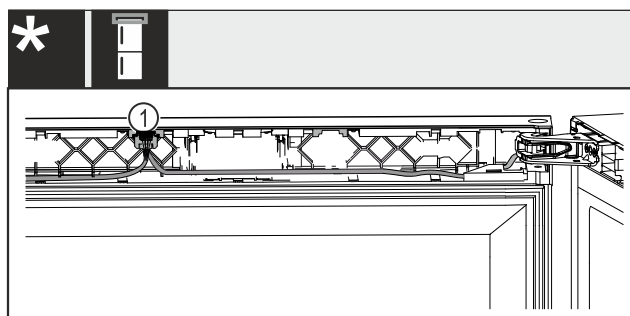

Fig. 41 Wine-freezer combinations
- ▶ Snap the plug *Fig. 41 (1)* into the guide.